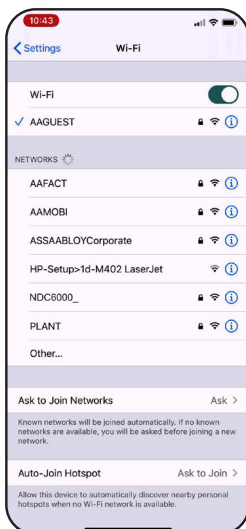

Figure 18
3. Find the associated operator's network (beginning with NDC6000_, followed by the operator's SSID). Once found, connect to the network. (Figure 18)